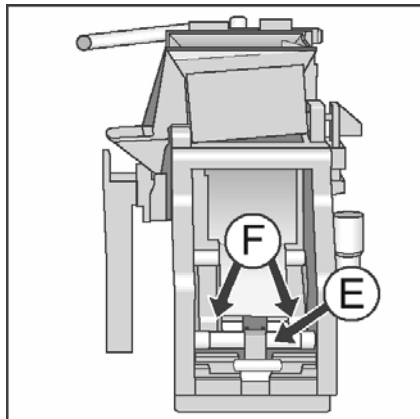

Figure 5-23: Brew Unit lubrication points
3. Refer to figure 5-23; lubricate the following: